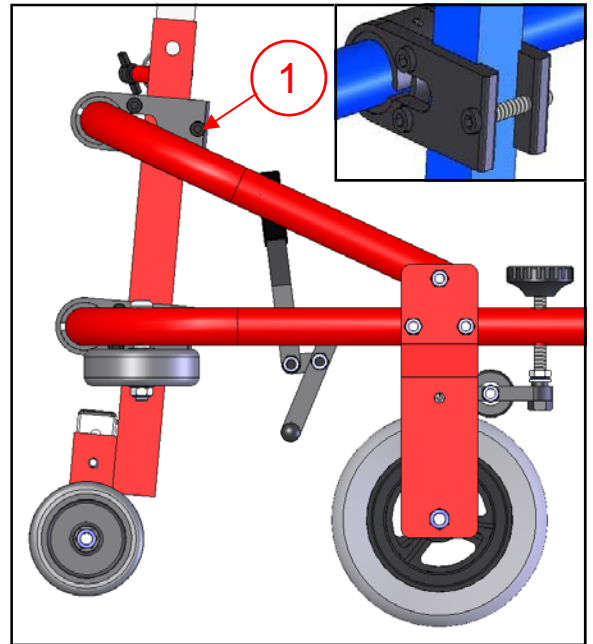
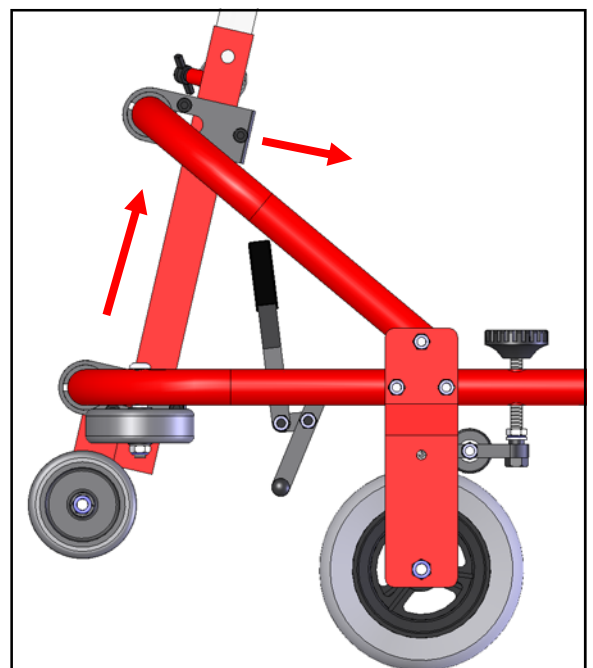

Figure 10
Figure 10A
2. If more pitch is needed, the rear column can be tilted forward. Loosen the 3 Allen screws on the upper tube clamp assembly (Fig 10). Raise the upper clamp assembly and frame brace while tilting the column forward (Fig 10A). When the desired angle is achieved tighten the Allen screws to secure the column. Note: lowering the upper tube clamp assembly will tilt the column back upright.